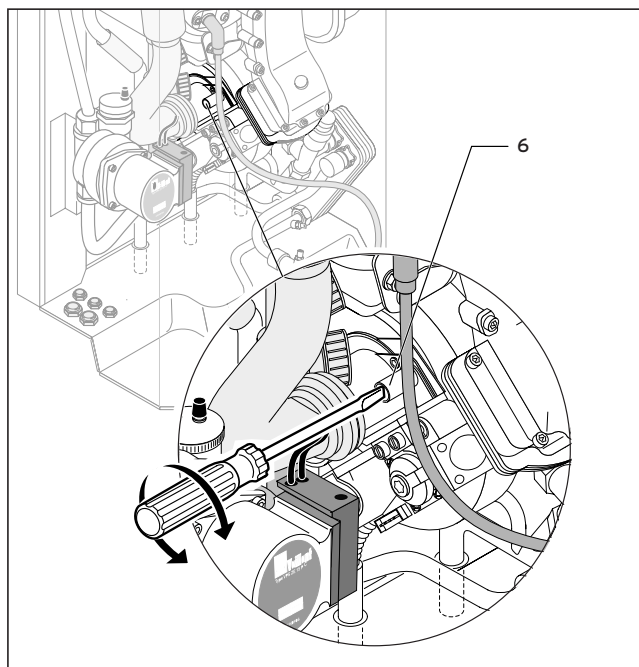

Fig. 9.13 Carrying out air-ratio adjustment (gas supply settings)
- Adjust the corresponding setting as required (see Table 5.2, p. 39) by turning the screw (6) (see Fig. 9.13).